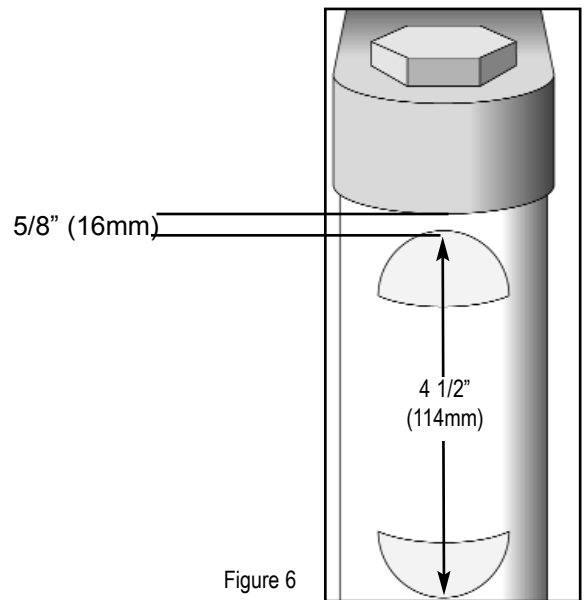

Figure 6
1. Position the arch of the upper Burr Barrier 5/8 inch (16mm) below the bottom of the upper triple clamp. **Figure 6.**